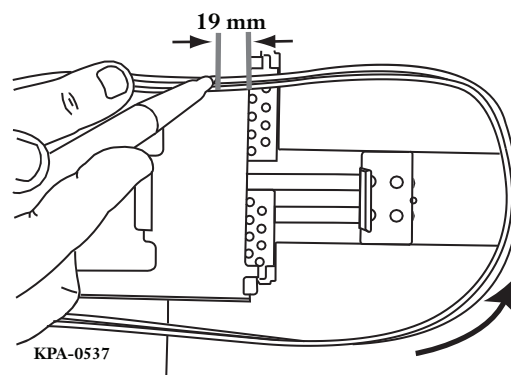

Figure 31— Mark the Buffer Tube
- Step 4** Use a permanent marker to mark the buffer tube 19 mm (0.75 in.) from the corner of the splice tray (Figure 31).